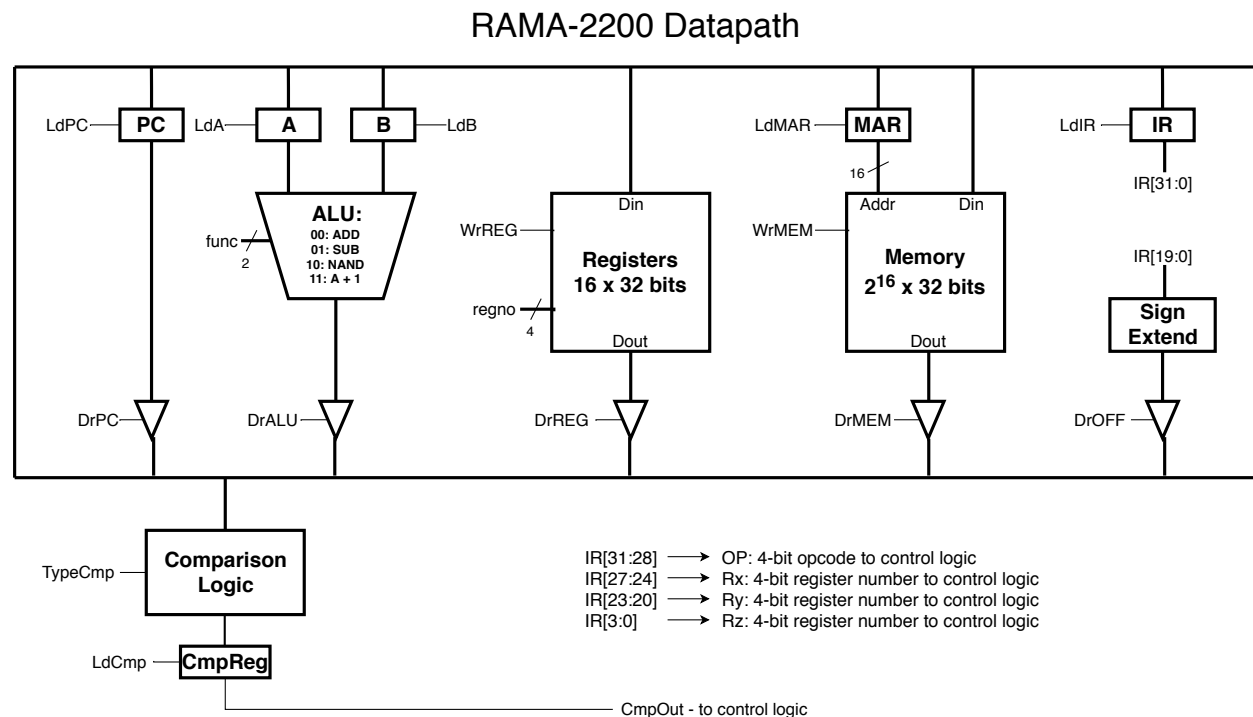

Figure 1: Datapath for the RAMA-2200 Processor
2. Using CircuitSim, implement the RAMA-2200 datapath. To do this, you will need to use the details of the RAMA-2200 datapath defined in Appendix A: RAMA-2200 Instruction Set Architecture. You should model your datapath on Figure 1.
The “comparison logic” box in Figure 1 is responsible for performing the comparison logic associated with the BEQ and BLT instructions. The comparison logic should read the current value on the bus. When executing BEQ or BLT, you should compute $A - B$ using the ALU. While this result of the ALU is being driven on the bus, the comparison logic should read the result $A - B$ and output a “true” or “false” value for either the condition $A == B$ or $A < B$ depending on the TypeCmp signal.
2. Implement the Microcontrol Unit using CircuitSim. The appendix contains all of the necessary information. Take note that the input and output signals on the schematics directly match the signals marked in the RAMA-2200 datapath schematic (see Figure 1).
4. Connect the completed control unit to the datapath you implemented in Phase 1. Using Figures 1 and 2, connect the control signals to their appropriate spots.